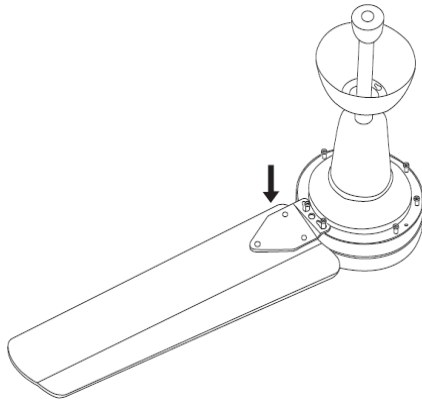

Fig. 2
- Connect a wire from the isolation switch terminal 1 to the L in of the RF module Fig.2
2. Fit the blades to the fan motor as shown below in fig. 2 with bracket facing upward. Turn the blade slightly anti clockwise to secure the blade.